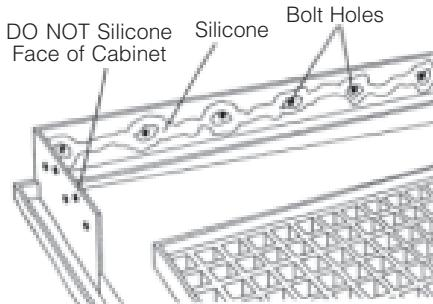

Figure 3-7. Silicone Around and Between Bolt Holes
4. On inside of base, silicone around and between the number of bolt holes counted plus one (e.g. seven bolt holes; see Figure 3-7). **Do not silicone along face of unit.** Make sure to silicone in a consistent line.